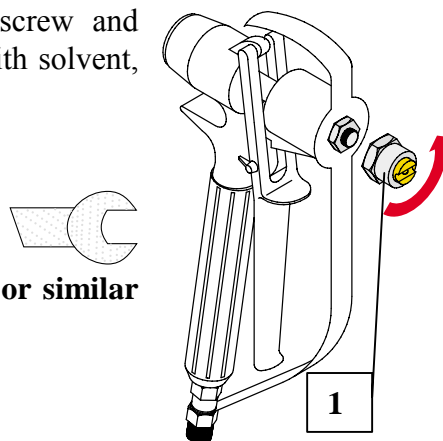

Fig.31
2) Remove the nozzle of the gun by loosening the screw and removing the nylon washer (fig. 31). Clean the nozzle with solvent, thinner and a brush.